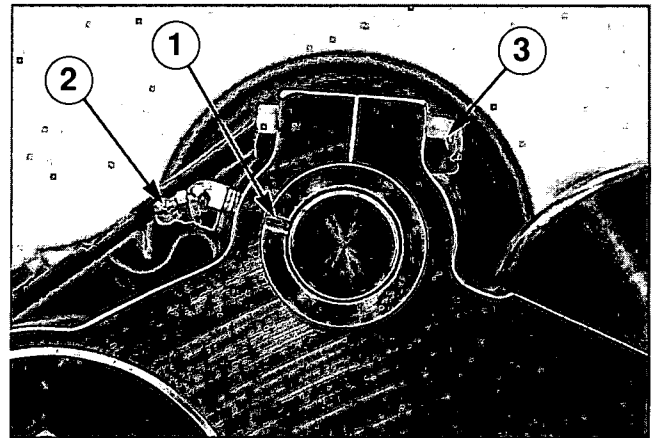

Figure 32 — Keep the notch on the bearing aligned with grease fitting to insure proper lubrication. (1) Notch, (2) Grease Fitting, (3) Pinch Bolt.
1. **Replace circular knife spindle bearings** if necessary. Loosen bearing pinch bolt in each side frame and remove bearings. Install new bearings, aligning the notch and grease fitting (Figure 32). The notch indicates the location of the grease hole in the bearing. After making the necessary adjustments (see page 39), retighten pinch bolts to 5 foot pounds (6.78 Newton meters).